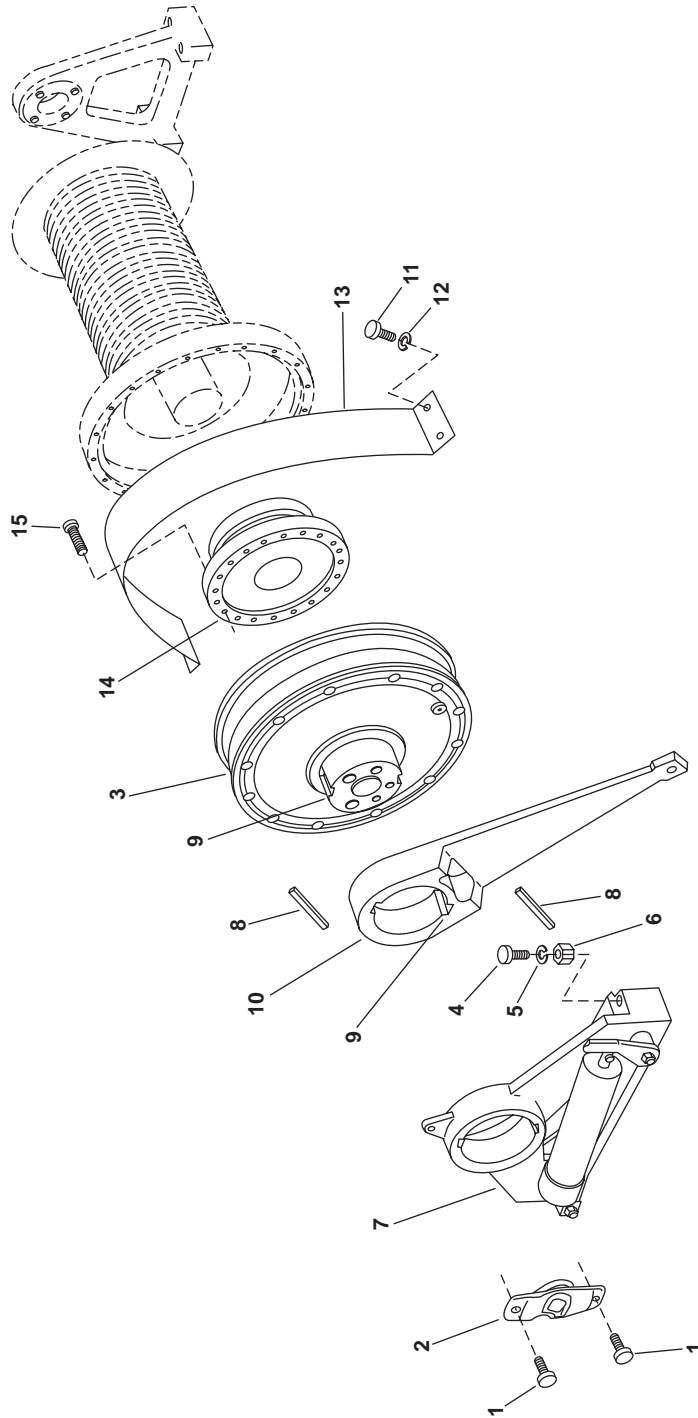

Figure 3. Hydraulic Motor, Front Bracket, Torque Arm, and Shaft Adapter Assembly
2. Remove the two bolts (figure 3, item 1) from the cover (figure 3, item 2) on the hydraulic motor (figure 3, item 3).
- Remove the four bolts (figure 3, item 4), the four lockwashers (figure 3, item 5), and the four nuts (figure 3, item 6) from the hydraulic motor front bracket (figure 3, item 7). Discard the lockwashers.
- Prepare the hydraulic motor front bracket (figure 3, item 7) for lifting using a lifting sling.
- Remove the hydraulic motor front bracket (figure 3, item 7) from the hydraulic motor (figure 3, item 3) using the suitable crane.
3. Lift the hydraulic motor front bracket (figure 3, item 7) into place and install it on the hydraulic motor (figure 3, item 3).
4. Install the four bolts (figure 3, item 4), four new lockwashers (figure 3, item 5), and the four nuts (figure 3, item 6) in the hydraulic motor front bracket (figure 3, item 7).
5. Install the cover (figure 3, item 2) on the hydraulic motor (figure 3, item 3).
6. Install the two bolts (figure 3, item 1) in the cover (figure 3, item 2).
2. Remove the two keys (figure 3, item 8) from the two key ways (figure 3, item 9). Discard the keys.
3. Prepare the torque arm (figure 3, item 10) for lifting using a lifting sling.
5. Lift the torque arm (figure 3, item 10) from the hydraulic motor (figure 3, item 3) using a suitable crane.
1. Prepare the torque arm (figure 3, item 10) for lifting using a lifting sling.
3. Lubricate the hydraulic motor (figure 3, item 3) and the key ways (figure 3, item 9) with exposed gear lubricating oil.
4. Lift the torque arm (figure 3, item 10) into place with a suitable crane.
5. Install the torque arm (figure 3, item 10) on the hydraulic motor (figure 3, item 3) ensuring that the key ways (figure 3, item 9) on the torque arm and the hydraulic motor are lined up.
6. Remove the lifting sling from the torque arm (figure 3, item 10).
7. Lubricate two new keys (figure 3, item 8) with exposed gear lubricating oil and install them into the two key ways (figure 3, item 9).
2. Prepare the hydraulic motor (figure 3, item 3) for lifting using the lifting sling.
4. Remove the five bolts (figure 3, item 11) and the five lockwashers (figure 3, item 12) from the shaft adapter cover (figure 3, item 13). Discard the lockwashers.
5. Remove the shaft adapter cover (figure 3, item 13) from the shaft adapter (figure 3, item 14).
6. Remove the 24 bolts (figure 3, item 15) from the shaft adapter (figure 3, item 14).
7. Remove the hydraulic motor (figure 3, item 3) from the shaft adapter (figure 3, item 14) using the suitable crane.